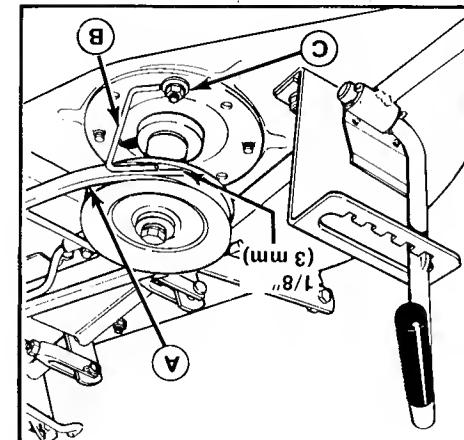

Figure 29. Right Arbor Belt Stop
The arbor belt stops are item D in figure 28 and item B in figure 29. There should be 1/8 inch (3 mm) clearance between the belt stops and the rear edge of the idler arm (figure 30). If not, loosen the nut (C) and move the belt guide. Tighten the nut and recheck the belt stops are correctly aligned. If not, loosen the nut, move the belt stop and retighten the capscrew. Recheck the measurement.